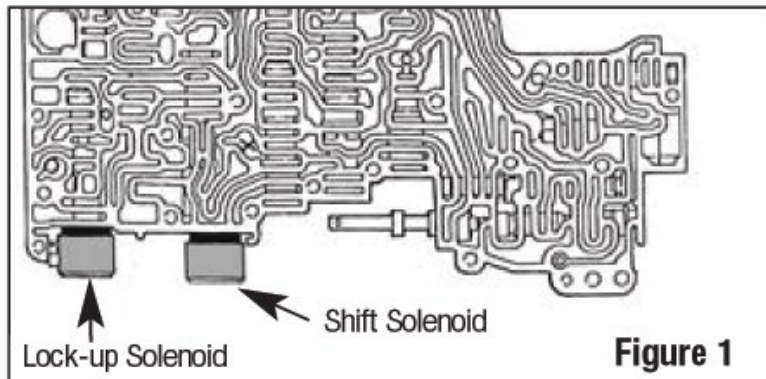

Figure 1
1. To Remove: Before removing the valve body, label wire pairs. (Fig.1). Unplug the electrical wires that attach the lock-up solenoid. The valve body on all A4LD transmissions must be removed before any of the Solenoid can be replaced.